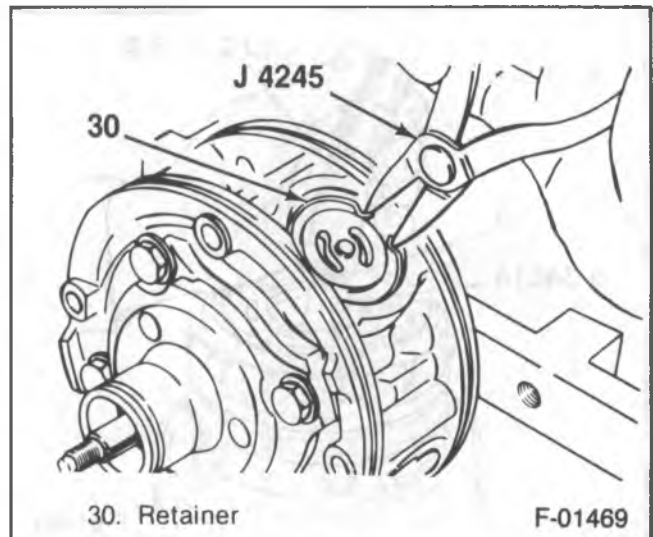

Figure 22—Replacing the Valve Plate Retainer
↔ Remove or Disconnect (Figures 22 and 23)
1. Valve plate retainer ring using J 4245 (figure 22).
Install or Connect (Figures 22 and 23)
3. Valve plate retainers rings using J 4245 (figure 22).